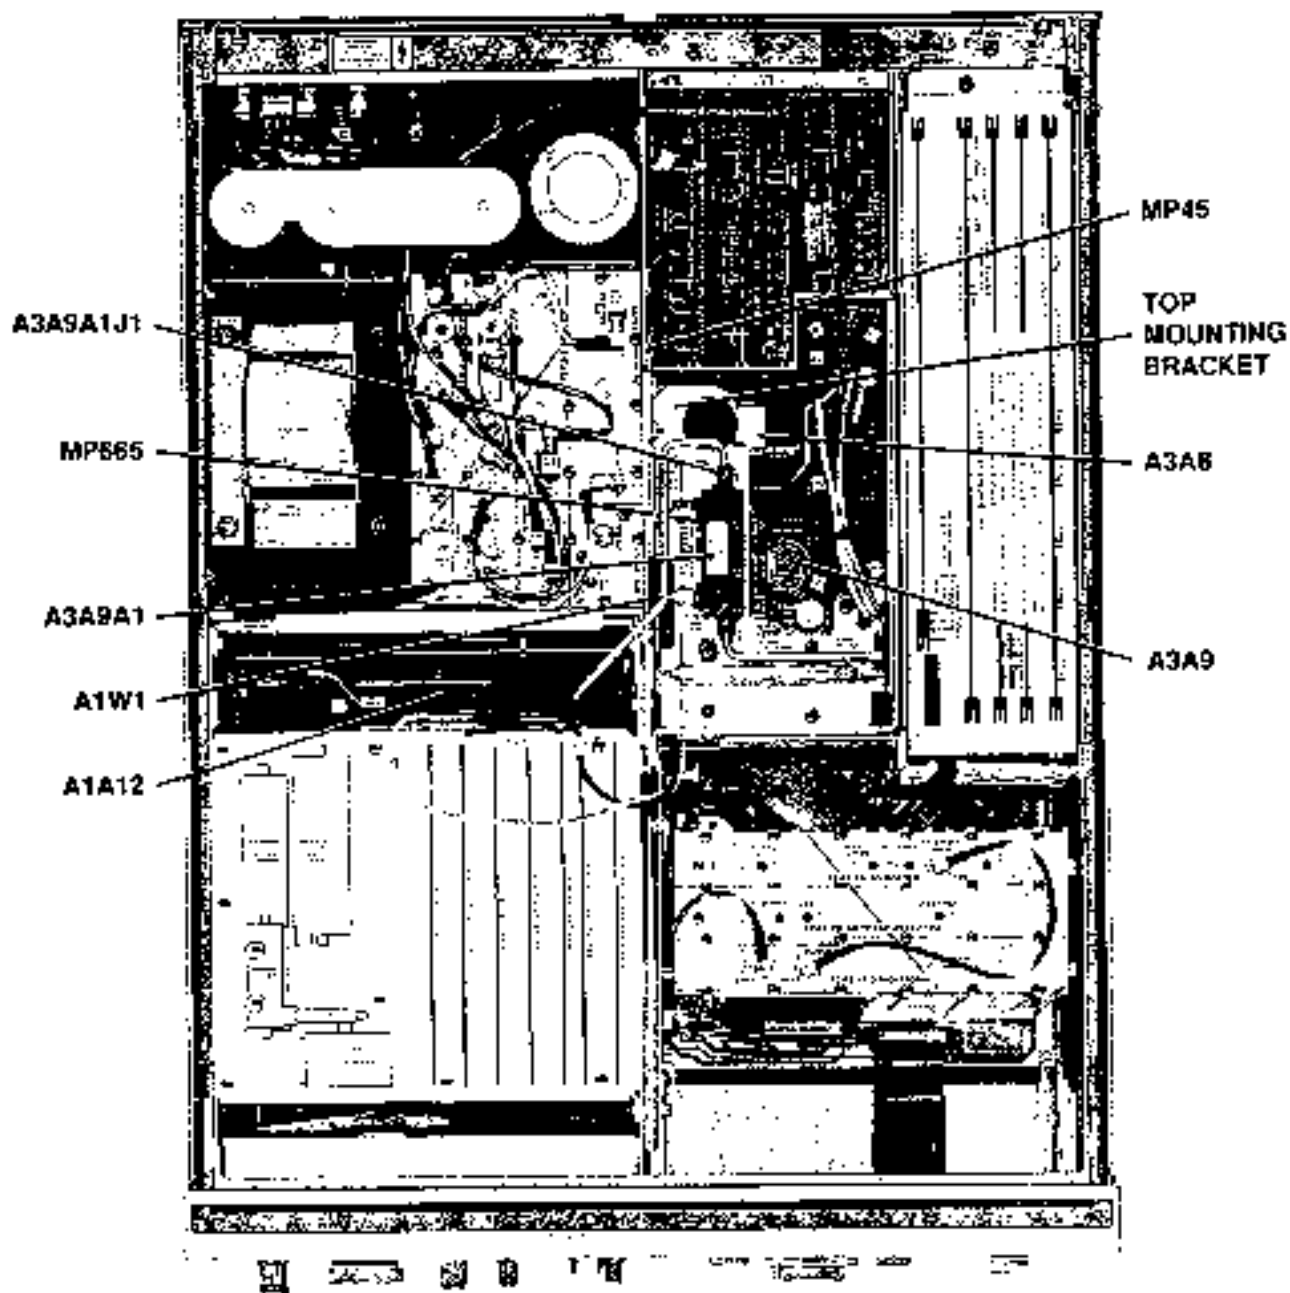

Figure 1. Locations of Reference Oscillator and YTO Loop Assembly
4. Refer to figure 1 and locate the A3A8 10 MHz reference oscillator. The oscillator has a serial number. It is on a label on the right side of the oscillator as viewed from the front of the signal generator. The first five characters of the serial number is the serial number prefix. If the serial number prefix is anything other than 2850A, the oscillator does not have a faulty fuse. If the prefix is 2850A, continue with step 5.
- c. Refer to figure 1. Remove screw, MP665, near directional coupler A3A9A1, that secures the YTO assembly to the center divider.
- a. Refer to figure 1. Remove the two nuts that secure the reference oscillator Top Mounting Bracket to the center divider MP45.